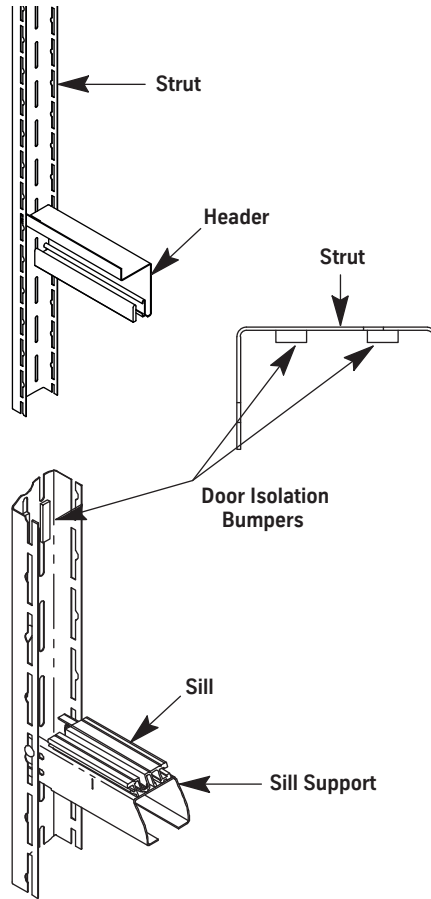

Figure 37 - Door Isolation Bumpers
3. Install the door isolation bumpers. See Figure 37 on page 7-43.